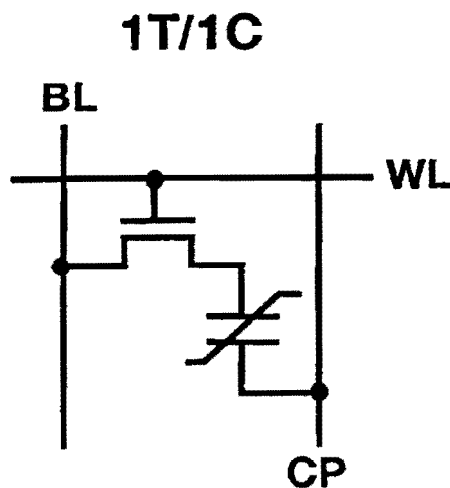
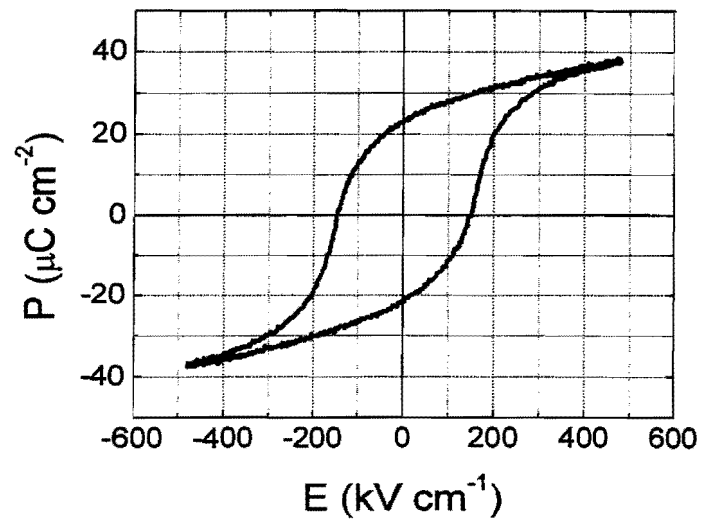

Fig. 1
Fig. 2
- 3 (a) The circuit diagram of a FRAM cell is shown in Fig. 1. Please explain how to write and read a bit of information, that is the WRITE and READ operations, in terms of the different voltage levels that are applied to the terminals BL, WL and CP. [Hint: Sense amplifier for read-out is connected to BL.] [50%]
(b) The ferroelectric capacitor in Fig. 1 is made of a ferroelectric material and its hysteresis curve is shown in Fig. 2. It has dimensions of 100 nm in thickness and $(250 \text{ nm})^2$ in area. Estimate: